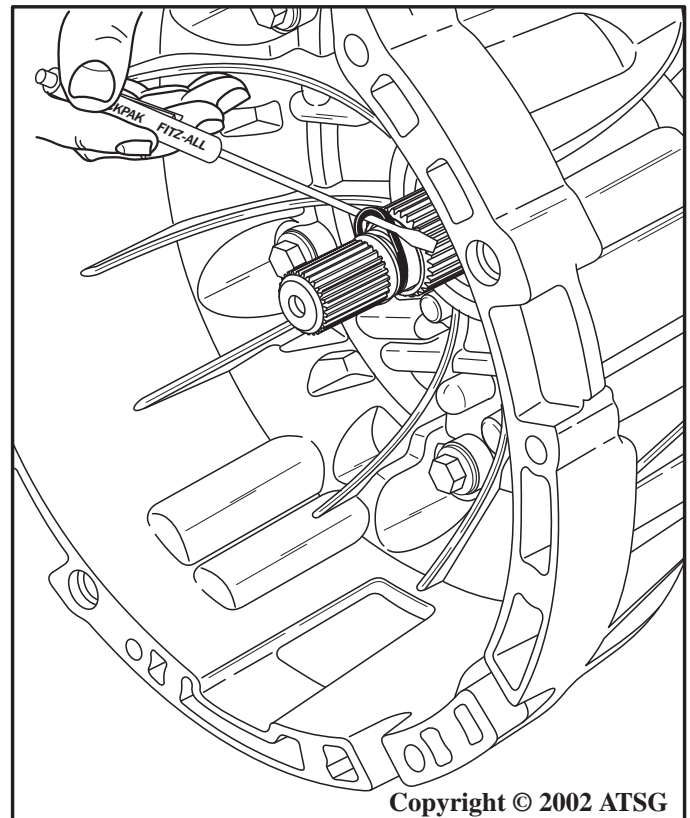

Figure 27
3. Remove and discard the "O" ring from turbine shaft, as shown in Figure 27, using a small screwdriver.